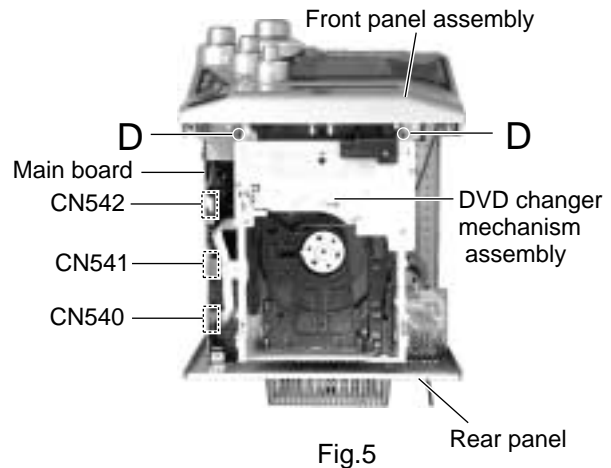

Fig.5
■ Removing the DVD changer mechanism assembly (See Fig.5 to 6)